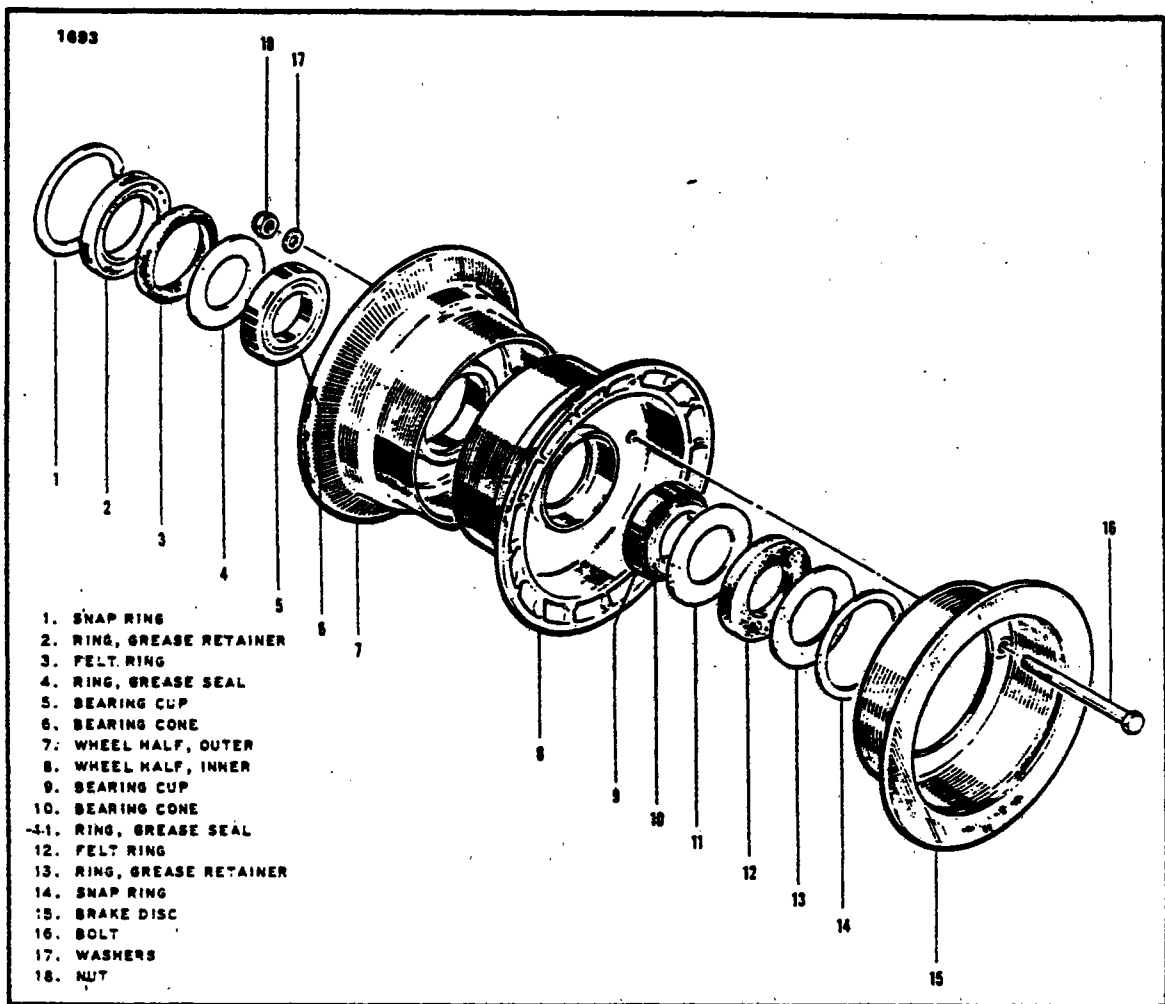

Figure 7A-16. Main Wheel Assembly
**7A-52. REMOVAL AND DISASSEMBLY OF MAIN WHEEL.** (Refer to Figure 7A-16.)
- d. The wheel halves (7 and 8) may be separated by first deflating the tire. With the tire sufficiently deflated, remove the wheel through bolts (16). Pull the wheel halves from the tire by removing the inner half (8) from the tire first, and